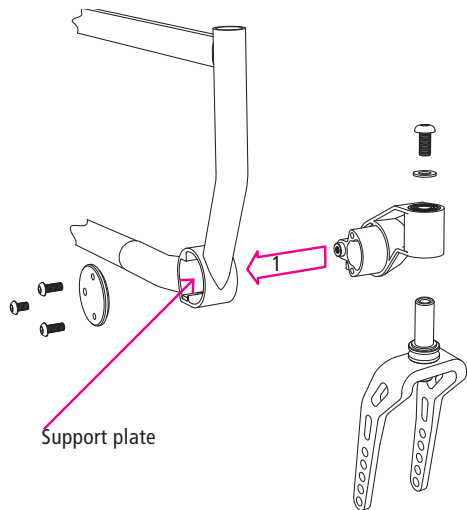

Fig. 58
5. You can now reinsert the complete castor arm on the opposite side of the wheelchair (1, Fig. 58).